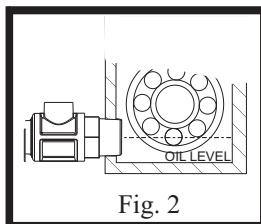

Fig. 2
4. Verify the centerline of the main body on the Watchdog Oil Dryer (Fig. 2) is parallel with the oil level being maintained.